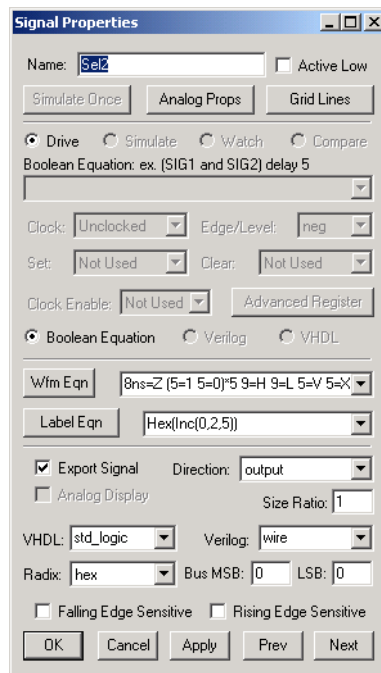

Figure 8-4. Signal Properties Dialog Box
1. Double-click the signal name to open the Signal Properties dialog box, as shown in Figure 8-4.